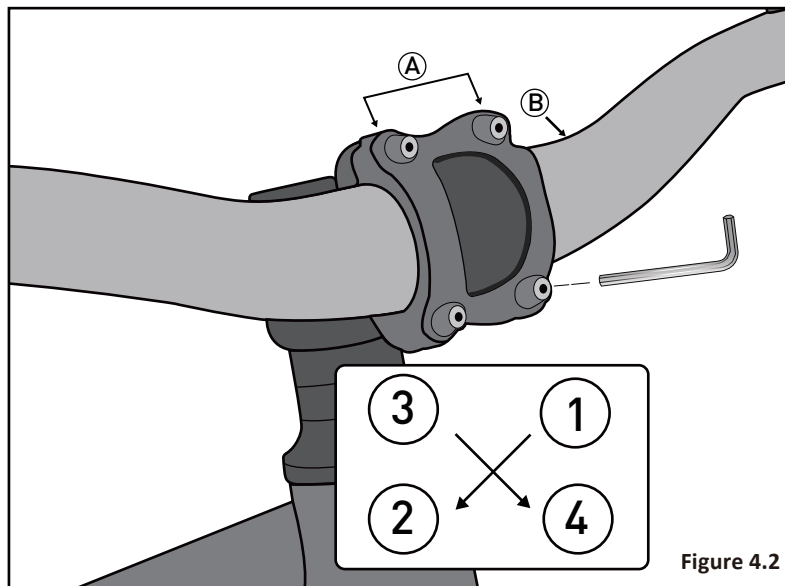

Figure 4.2
- 3** Loosen the Handlebar ClampBolt(s) (A and rotate Handlebar B) into a comfortable riding position. Tighten Handlebar Clamp Bolts(s) (A securely). **Figure 4.2**